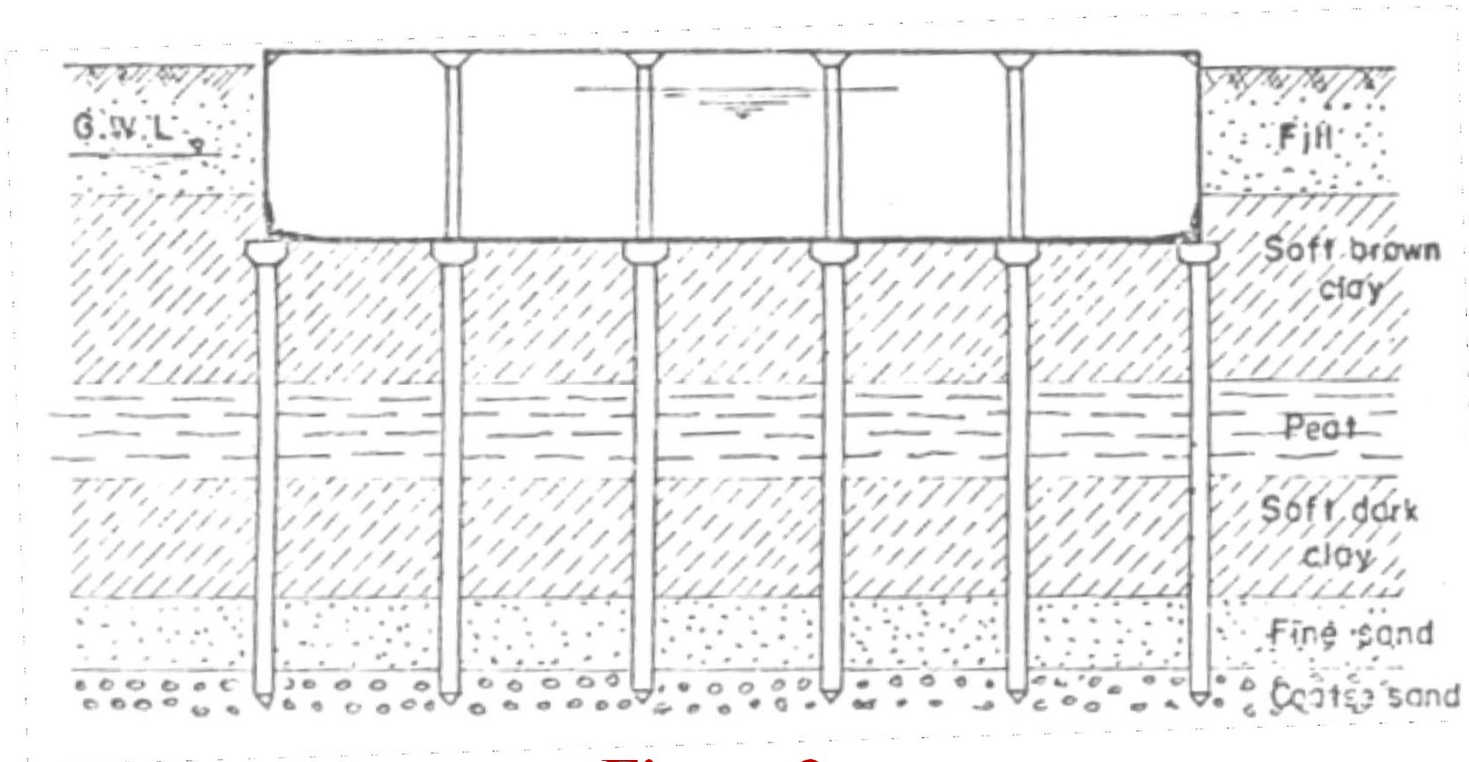

**Figure 2**
- In case of medium soils at foundation level, raft foundation may be used (see Figure 2).